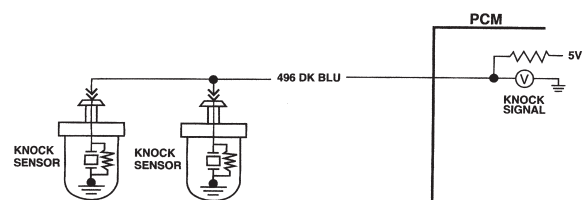

Figure 2-17. Piezoelectric knock sensor. (GM Service and Parts Operations)
Piezoelectricity is the principle used in knock sensors (KS), also called detonation sensors. The typical knock sensor (Figure 2-17) produces about 300 millivolts of electricity and vibrates at a 6,000-hertz (cycles per second) frequency, which is the frequency that the cylinder walls vibrate at during detonation.